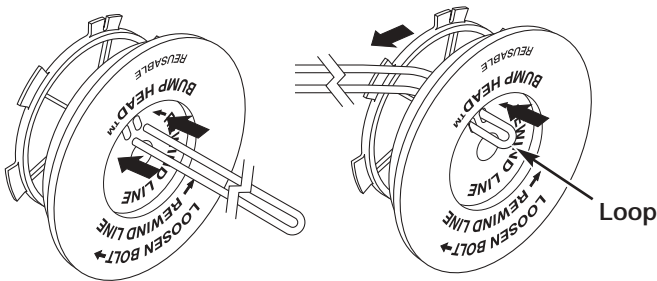

Fig. 28
- Take approximately 40 feet (12.2 m) of new trimming line, loop it into two equal lengths. Insert each end of the line through one of the two holes in the inner reel (Fig. 28). Pull the line through the inner reel so that the loop is as small as possible.